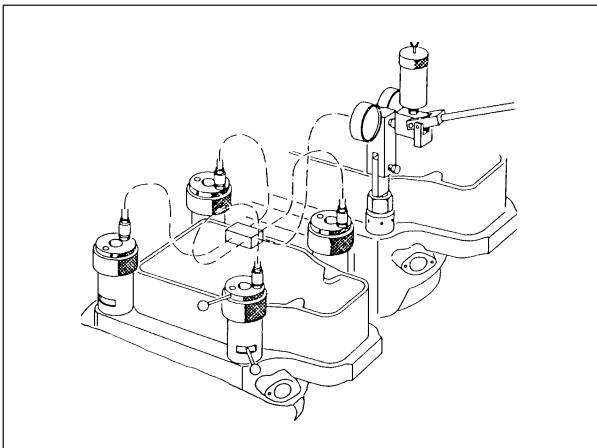

Fig 1
- 8) Remove the cylinder head nuts, see Fig 1, by means of hydraulic jacks. See working card 520-01.05.